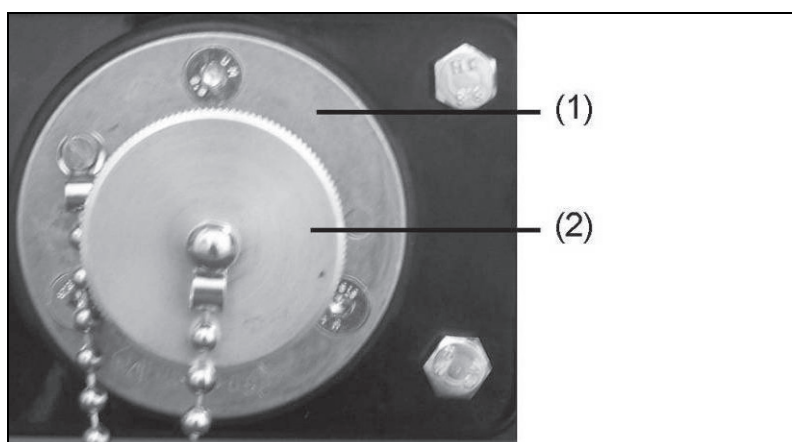

Figure 5-7: Connecting up the battery charge retention device
1. Unscrew cover (Figure 5-7-(2)) of the start socket (Figure 5-7-(1)) for the starter battery charge retention device.
1. Unscrew cover (*Figure 5-7-(2)*) of the start socket (*Figure 5-7-(1)*) for the starter battery charge retention device.